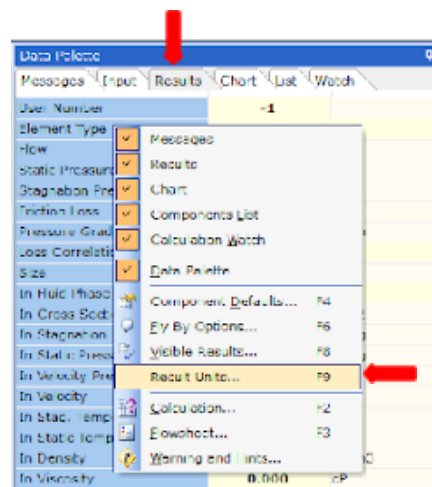

Figure 22: Result Units.
20. We can change our units by right mouse-clicking on the *Results* tab followed by selecting *Results Units* from the drop-down menu (Figure 22).